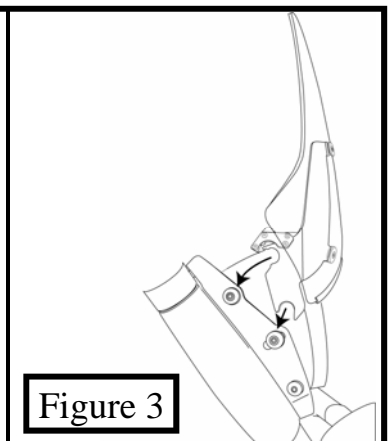

Figure 3
6. Install the windshield by placing the lower slots into the lower mounting bushings. Slip the upper slots into the upper mounting bushings and gently but firmly seat the slots into place. Lock the locking mechanism into place. (see figure 3 and 4)